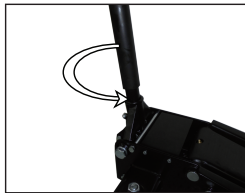
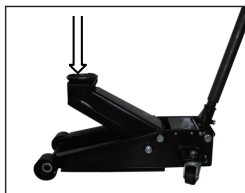

fig 5.
fig 8.
1. Use the handle assembly to twist the release valve 1-1/2 turns counter-clockwise (fig.5).
1. **Check oil level** - Open release valve with the handle assembly (fig.5) not more than two twists and press down on head cap (fig.8) to ensure lifting arm is fully down.
1. Close release valve by twisting the handle assembly clockwise until firm resistance is felt (fig.5).
6. SLOWLY twist jack handle assembly counter-clockwise (fig 5.) to ease vehicle down onto jack stands.
2. Slowly twist the handle assembly counter-clockwise (fig.5) until the jack just begins to lower.
4. After removing the jack from under the vehicle, push down on the lifting arm (fig.8) to reduce the pump ram exposure to rust and contamination.